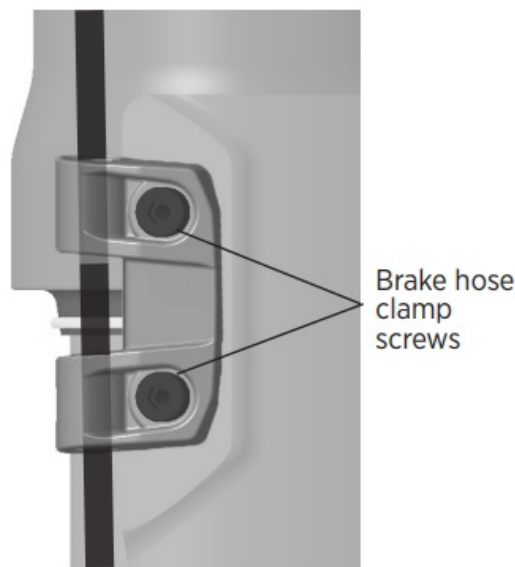

Figure 5: Install the brake hose clamp screws
2. Route the front disc brake hose or cable housing along the inside of the left lower tube. Then, install the brake hose into the opening on the brake hose clamp. Verify the brake hose has ample length on the inside routing so the upper tube does not contact the brake hose during compression of the fork. Use a 2.5 mm hex wrench to loosely install the two brake hose clamp screws (Figure 5), as further adjustments will be needed in a later step.